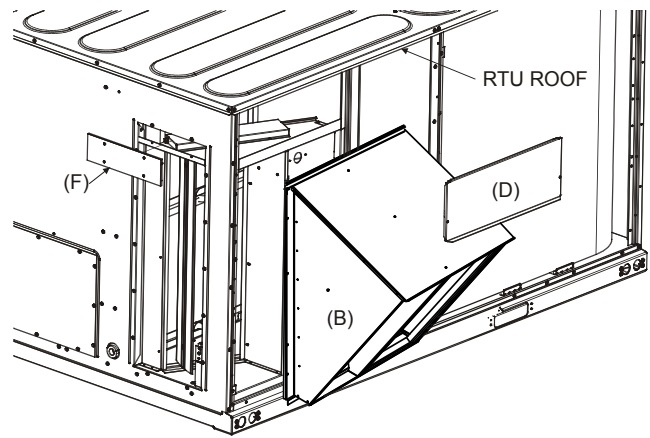

Figure 9
Install Filler Panel (D) under top of RTU and over top of Economizer Hood (B). Secure the right side of Filler Panel (D) with 1 self-tapping 10-16 x 1/2 screw provided with Economizer and secure the left side with 1 screw that was retained in **Step 2**. Install Horizontal Filler Panel (F) over return opening. **See Figure 9.**